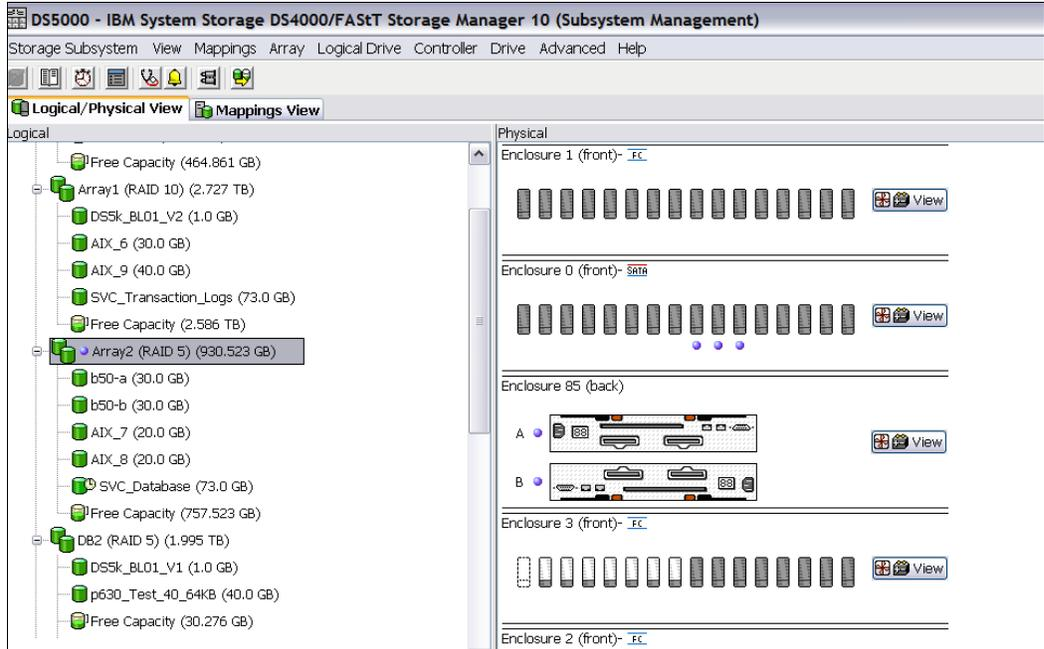

Figure 11-36 Storage Manager with LUNs created
- It has been created with RAID 5 and is 73 GB in size (Figure 11-36).
- The read ahead multiplier is set to enabled (1).